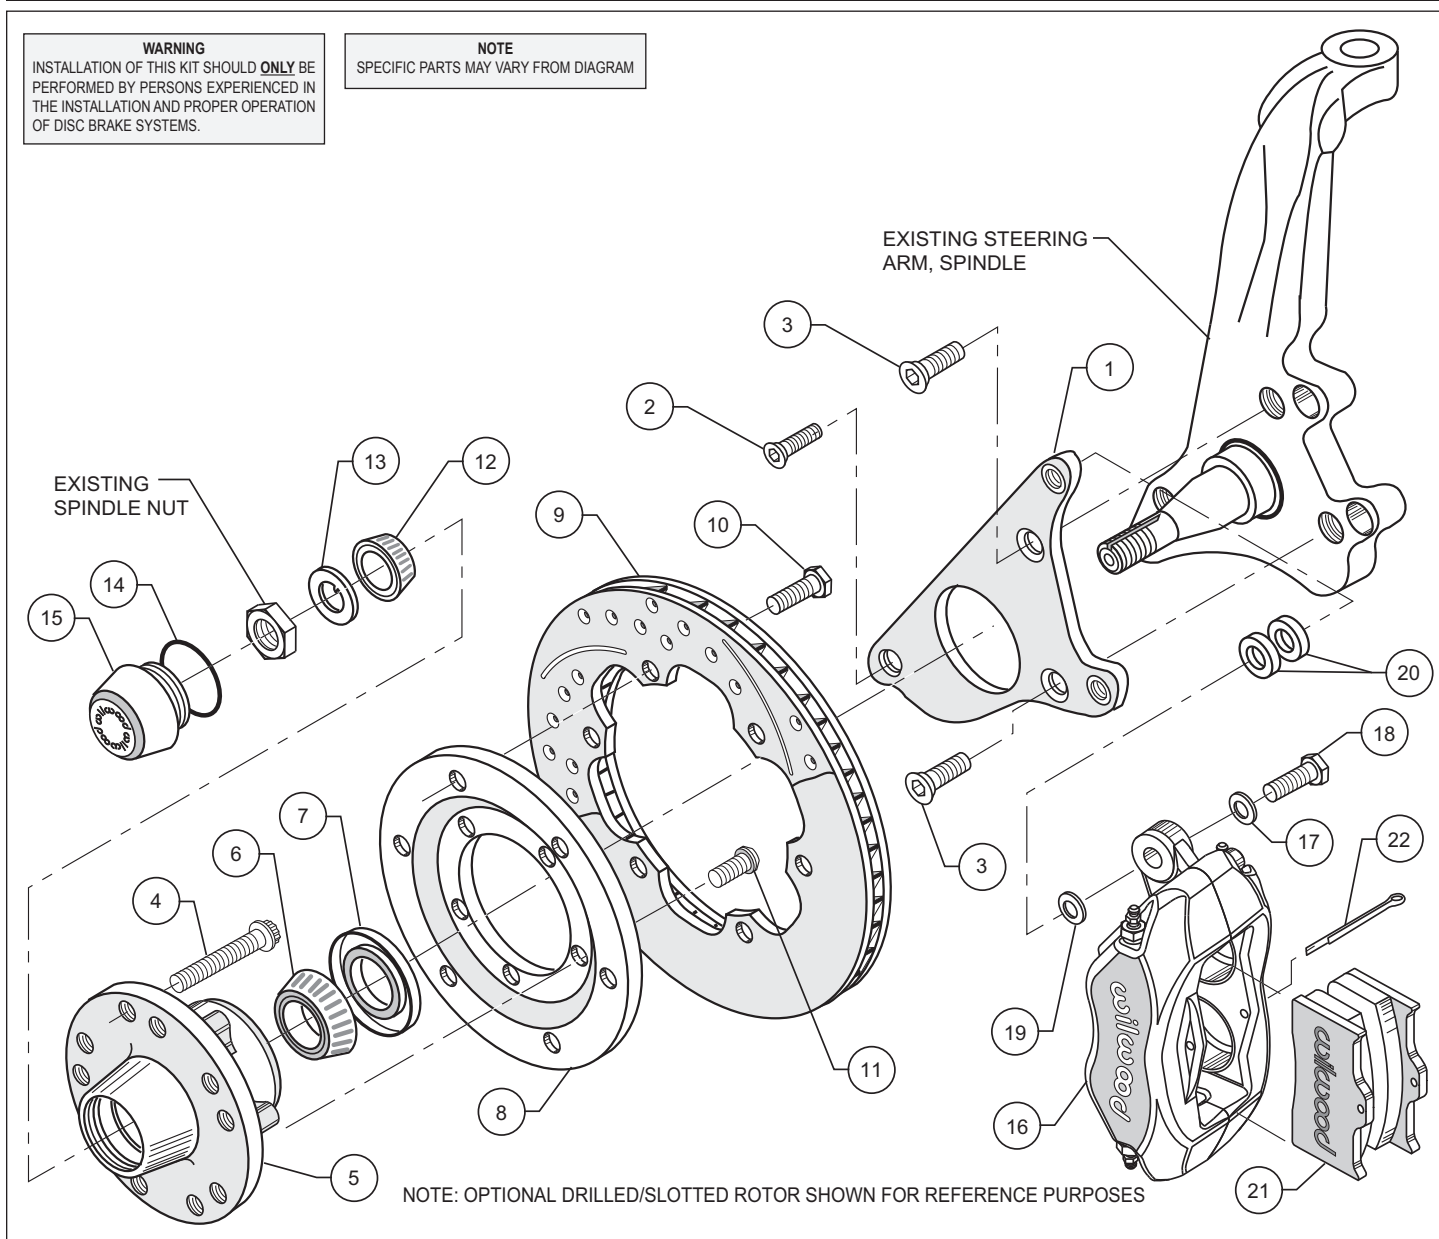

Figure 1. Typical Installation Configuration
- Mount the adapter/rotor assembly (8/9) to the hub (5) using bolts (11) (finger tight), as shown in Figure 1. Using an alternating sequence, remove bolts one at a time, apply red *Loctite*® 271 to the threads, and torque to 55 ft-lb.
- Pack the small outer bearing cone (12) with high temperature disc brake bearing grease. Lightly coat the spindle bearing surfaces with bearing grease. Slide the hub/rotor assembly (5 and 9) with outer bearing cone (12) onto the spindle. Secure using spindle washer (13), existing adjusting nut and nut locking device.